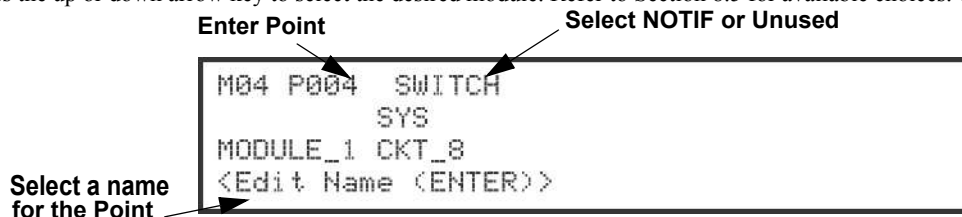

Figure 9.7 Programming Points Screen for the ECS-AMP Module
12. Press the up or down arrow key to select the desired function. (See Figure 9.7), then press ENTER.